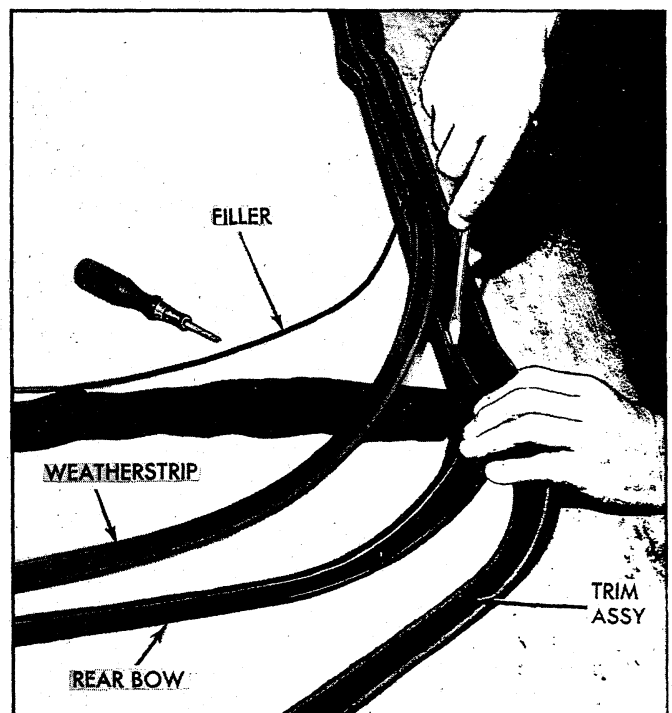

Fig. 105—Installing Trim and Weatherstrip to Rear Bow
and pull weatherstrip and trim from rear bow. Section A-A shows installed position of these components. Refer also to figure 105.
2. Assemble top trim and weatherstrip to rear bow, referring to Section A-A and Figure 105. Note that filler strip locks this assembly together and goes in last. Align center marks.